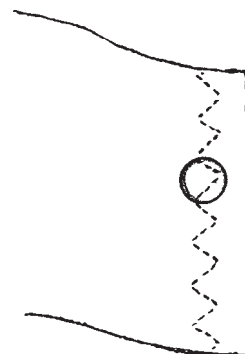

FIG. 1 Multiple Stitch Zigzag
**blind hem stitch**, *n*—*in home sewing* a complex machine stitch pattern consisting of small groups of straight or narrow zigzag stitches separated by a wide zigzag stitch unit at consistent intervals. (See Fig. 1.)